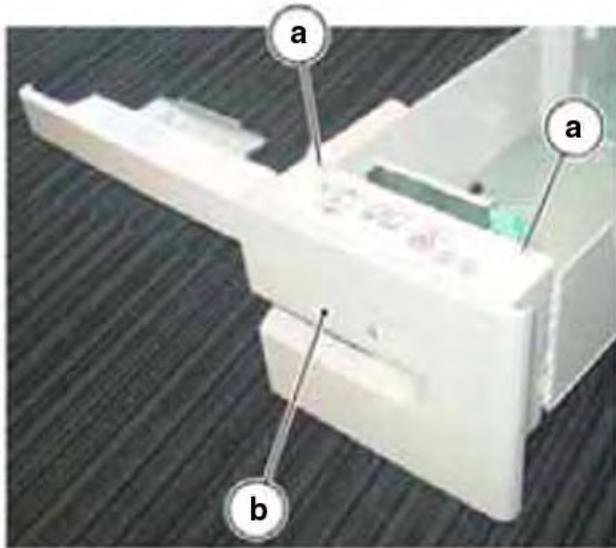

Figure 1 Cover Removal
3. Remove the Cover (Figure 1):
- a. Remove the Screws (2).